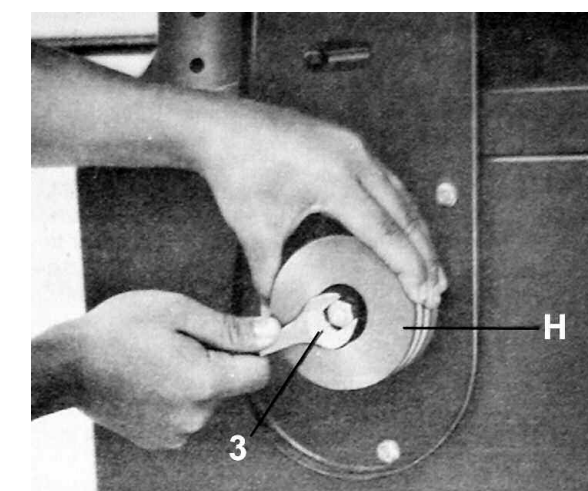

FIGURE 6
2. Assemble the motor pulley (H) to the motor shaft with the key in place and tighten the hex. bolt (3) in the motor shaft, as shown in Fig.6.